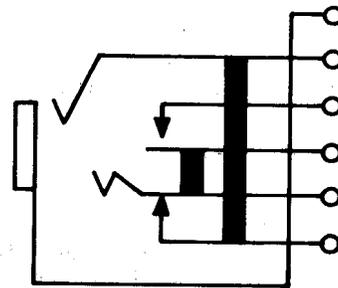

Fig. 6—360A or C Jack
2.06 360A and C: These single-mounted jacks (Fig. 6) are heavily insulated and intended to be mounted with the springs in a vertical plane. These jacks are used with the 310 plug.